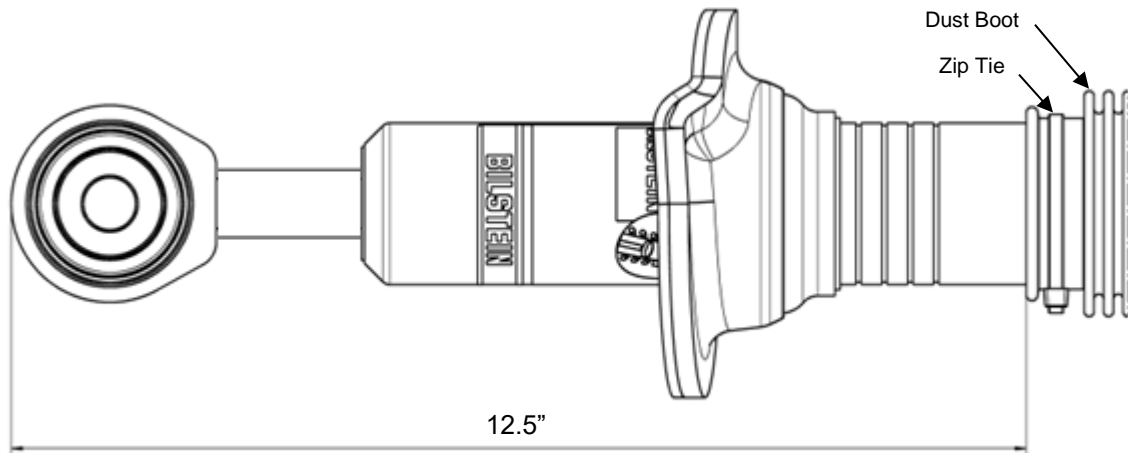

Figure 4
- H. Position the dust boot such that the bottom edge of the boot is approximately 12.5 inches from the bottom of the shock as shown in Figure 4. Secure the boot with the provided zip tie. Trim the excess zip tie length after installation.